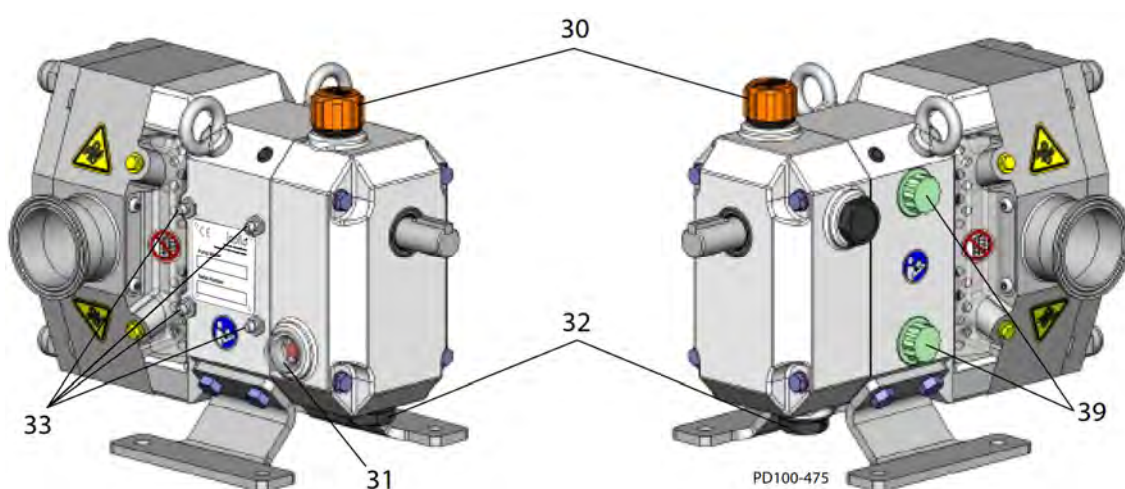

Fig. 26: Lubrication points
Tab. 1: Callout table for figure 26
CAUTION! Each pump is shipped from the factory with the gearbox sealed. Prior to operation, check the oil level and replace the uppermost oil drain plug with the supplied oil fill breather, at the location of item 30 in Figure 26.
Excess grease will accumulate in the gear case. Remove it through the cleanout hole covered with a plastic plug (Figure 26, item D).